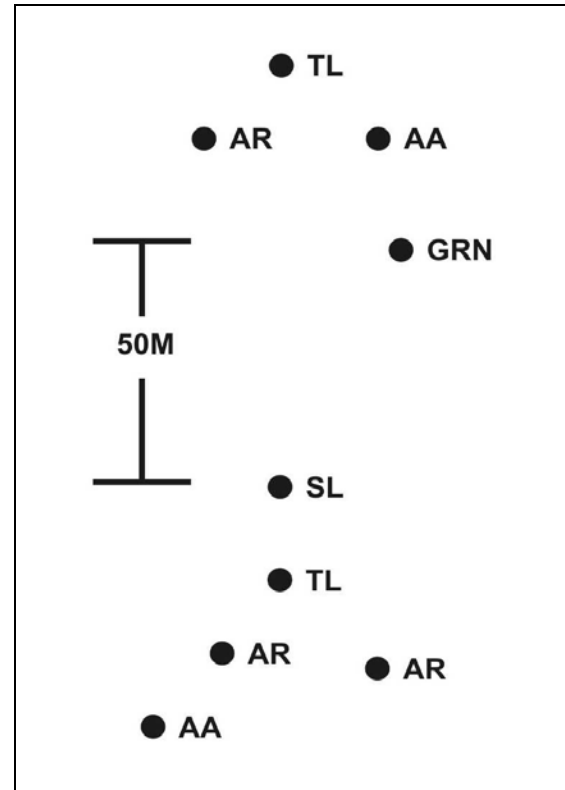

Figure F-12. Traveling overwatch movement technique.
(2) ***Traveling Overwatch.*** The squad or platoon uses *traveling overwatch* (Figure F-12, page F-9) when contact with the enemy is possible. Traveling overwatch resembles the traveling technique, except with greater distance between the lead fire team or squad and the remainder of the element.